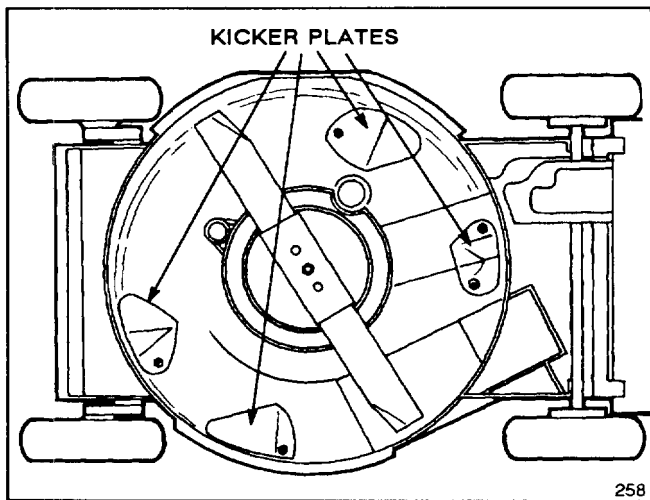

Figure 5
- Four special "kicker plates" positioned on the underside of the mower deck in strategic positions (Fig. 5)